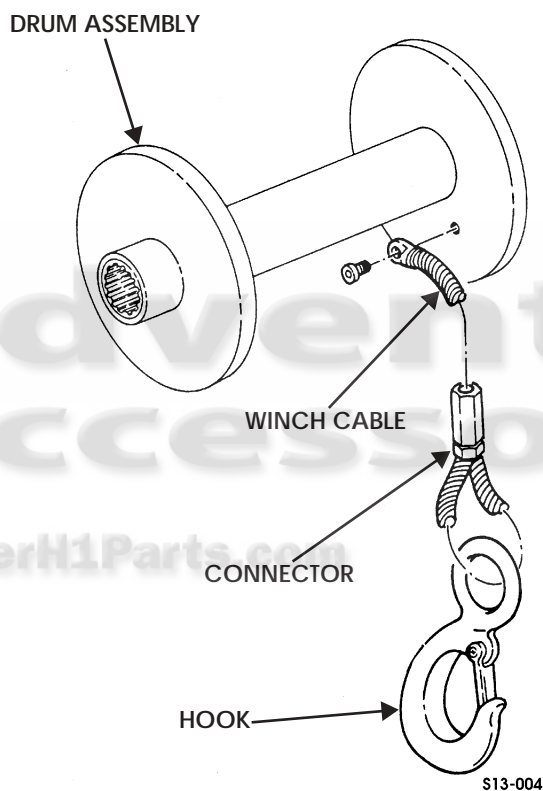

Figure 13-4: Winch Cable
3. Remove capscrew and winch cable from drum assembly (Figure 13-4).
1. Install hook and connector on winch cable. Tighten connector (Figure 13-4).